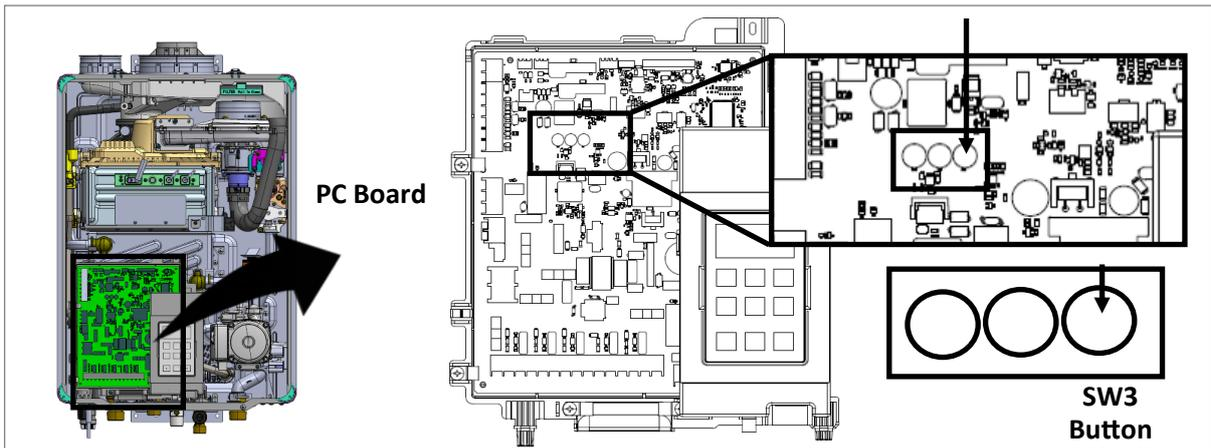
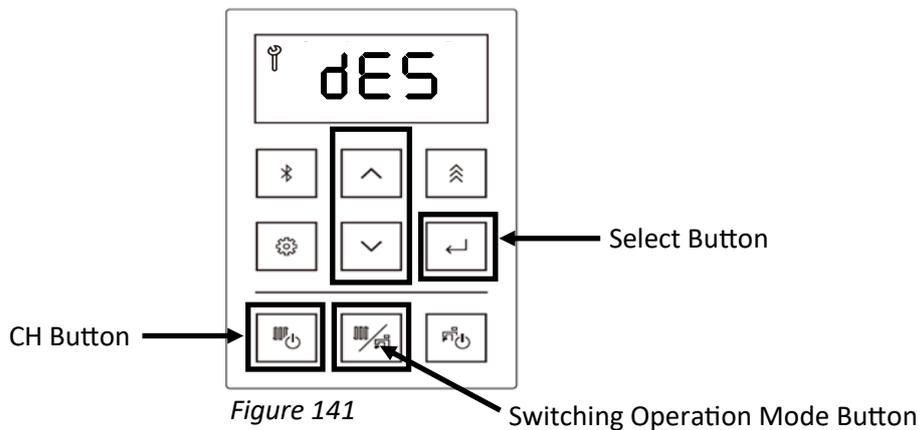

Figure 140
Figure 141
4. Press the SW3 button on the PC Board (Figure 140).
5. Press the up or down arrow button on the controller to select dES (descaling) (Figure 141).
6. Press the Select button to select the dES (Figure 141).
8. Press the Central Heating (CH) button to start the count down (Figure 141).
Note: If you need to cancel this procedure, you may press the Switching Operation Mode button on the controller (Figure 141), or press the SW3 button on the PC Board (Figure 140).